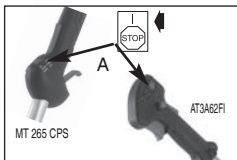

Fig. 10A
1. Move switch to the "RUN" position (Fig. 10A).